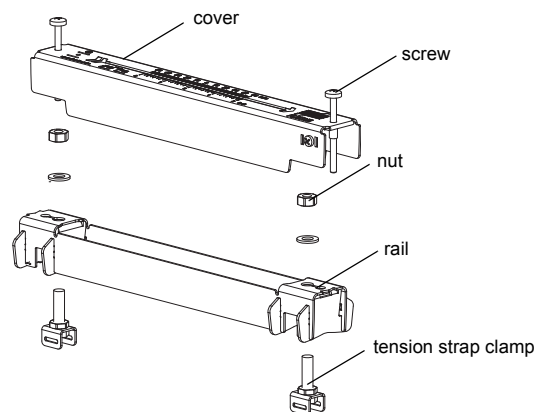

Fig. 8.5: Disassembly of Variofix L
- Disassemble the transducer mounting fixture Variofix L (see Fig. 8.5).